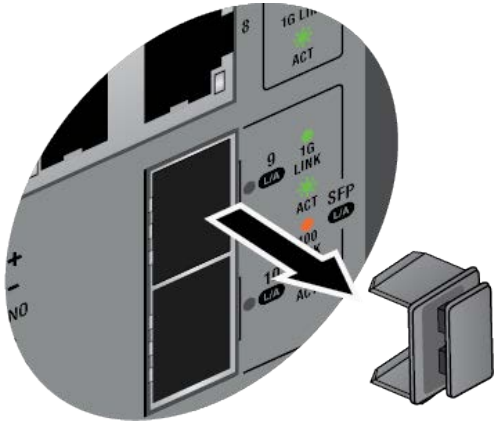

Figure 31. Removing the Dust Plug from a Transceiver Port
1. Remove the dust plug from the selected transceiver port. Figure 31 on page 91.